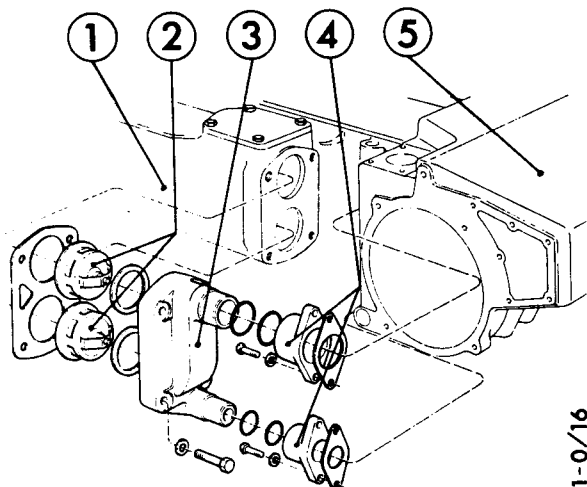

Fig. 4
The thermostat housing (pos. 3 in fig. 4) is located in the front end of the water-cooled exhaust collector pipe (1) and is connected to the heat exchanger housing (5) with O-ring sealed flanges (4).